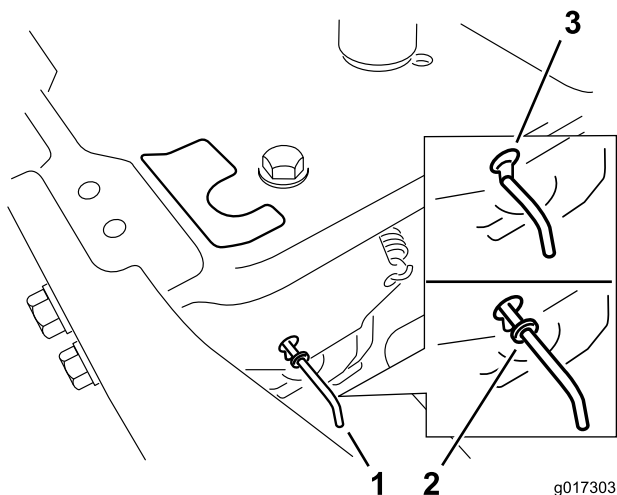

Figure 29
4. Move the bypass levers forward through the key hole and down to lock them in place as shown in Figure 29. Ensure this is done for each lever.
Move the bypass levers rearward through the key hole and down to lock them in place as shown in Figure 29. Ensure this is done for each lever.